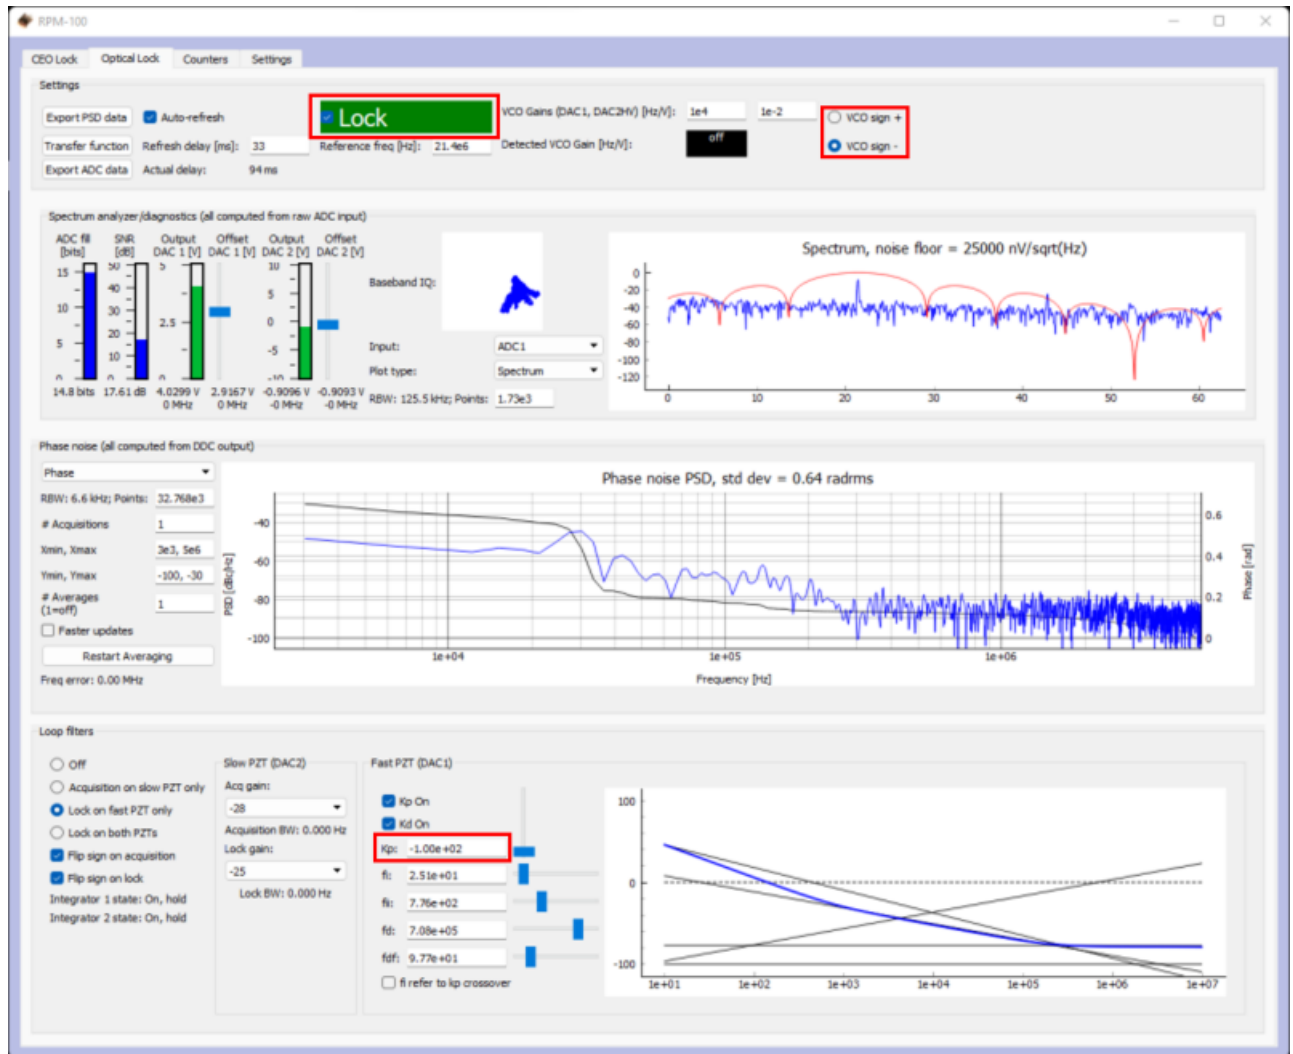

Fig. 12: Locking  $f_{opt}$
4. Press the “Lock” button (figure 12, top middle). If the system doesn’t lock, change the VCO sign to the opposite polarity (top right) and try again. A warning may occur if the selected VCO sign is incorrect. If the system still won’t lock, try lowering the  $K_p$  value (bottom center).
6. Adjust PID settings (bottom of figure 10 and figure 12) as needed to lower the integrated phase noise of each parameter ( $f_{CEO}$  and  $f_{opt}$ ). The default settings provided in the software are tuned for your specific device but tweaking the values can often improve performance based on the noise characteristics of your environment.